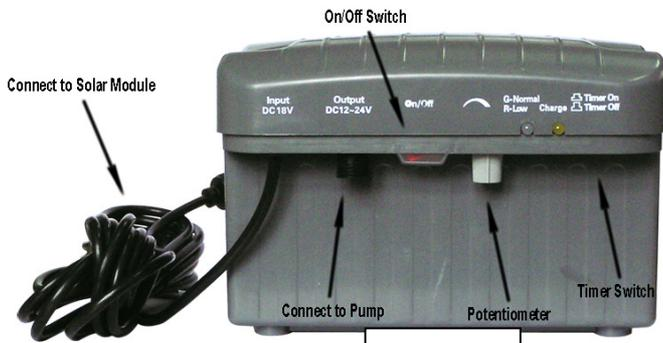

Figure 4
- 4) Attach the pump plug to the "Output" socket of the battery back-up, and also tighten the connection nut. (see Figure 4)
- 11) To change pump performance, the output voltage can be adjusted in the range of 12V-24V through the potentiometer knob. (see Figure 4)